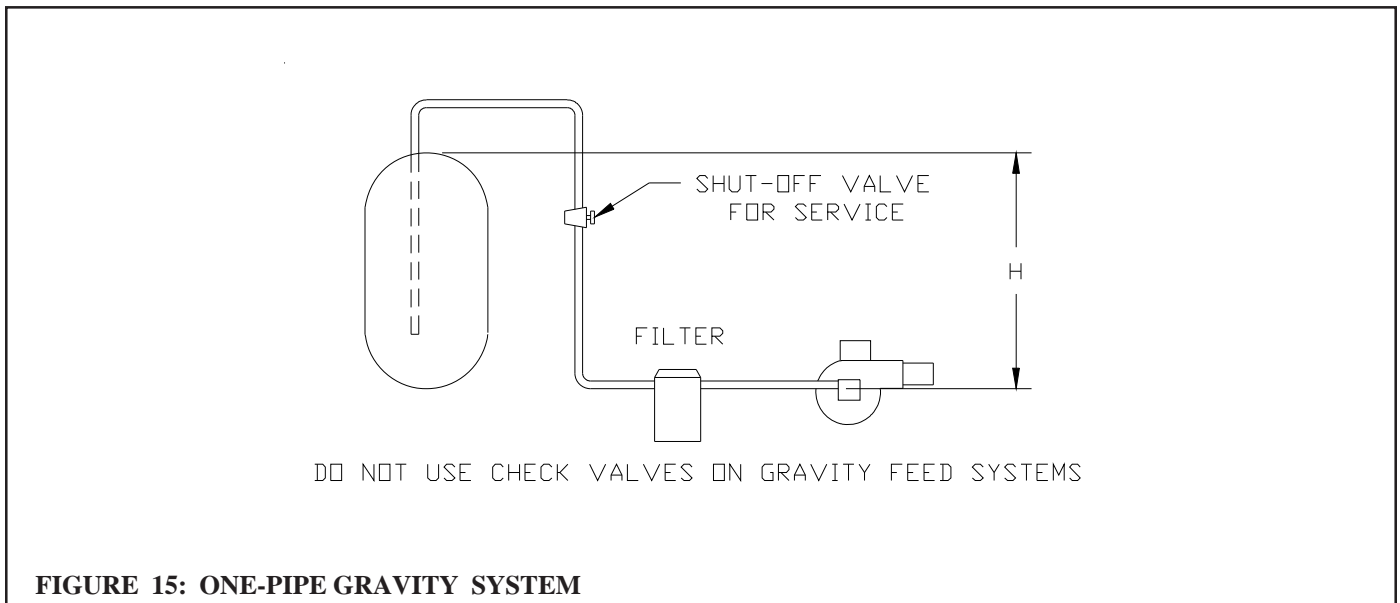

FIGURE 15: ONE-PIPE GRAVITY SYSTEM
- a) **ONE-PIPE GRAVITY SYSTEM** - used when a fuel oil storage tank is positioned above an oil burner fuel pump. See Figure 15. A vertical distance from top of the tank to center line of the pump (Dimension 'H') over 8 feet will result in a pump inlet pressure in excess of the 3-psi limit in NFPA-31.